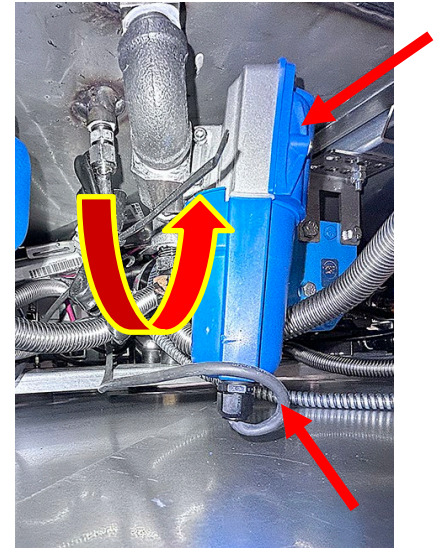

Figure 12
14. Reattach the actuator **rotating it 90° from its original installation with cable to the bottom** (see Figure 12). Ensure the actuator cable is routed under the flexlines and **NOT touching any flexline**.